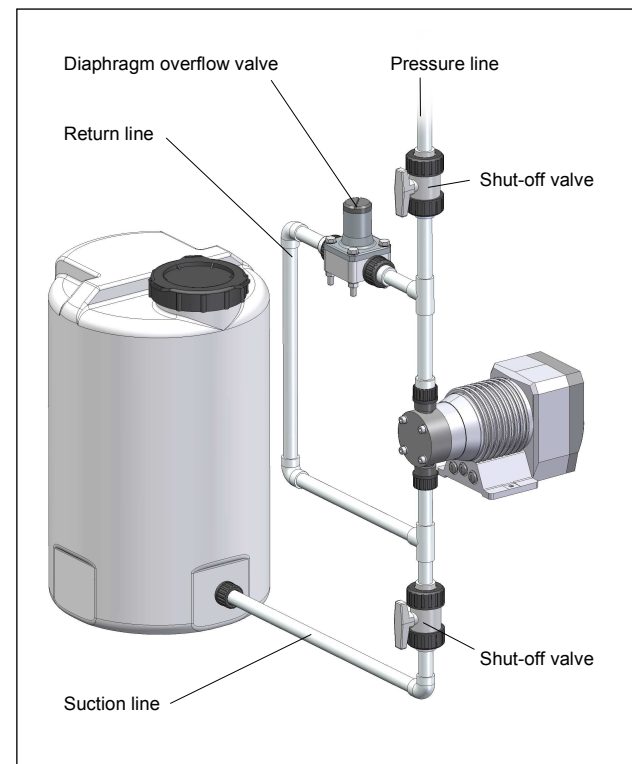

Fig. 22 System with (external) overflow valve
- or connect the overflow line directly to the pump suction line, but only if there is no check valve inside the suction line (e.g. foot valve of a suction lance) (please see Fig. 22).